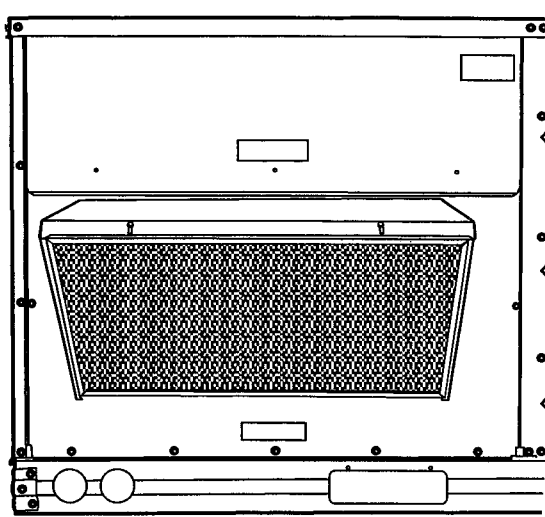

Fig. 24 — Filter Installed On Outdoor-Air Hood
10. Slide outdoor-air inlet screen into screen track on hood side plate. While holding screen in place, fasten screen retainer to hood using screws provided. See Fig. 24.